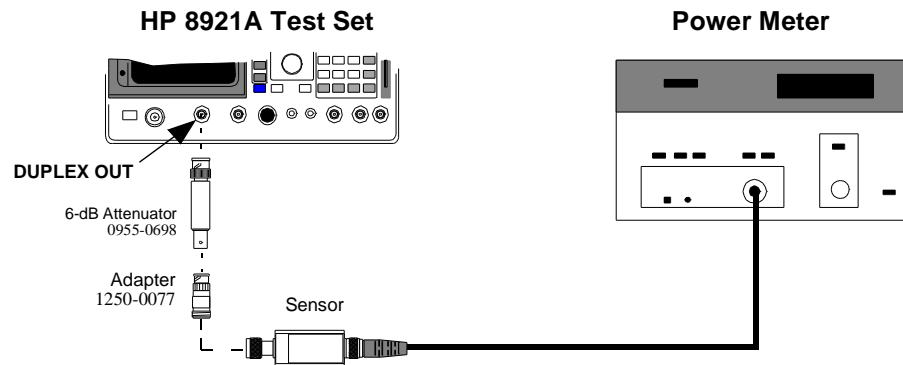

Figure 58
- 3** Make the connections shown in *figure 58, "RX Path Power Meter Reference"*.